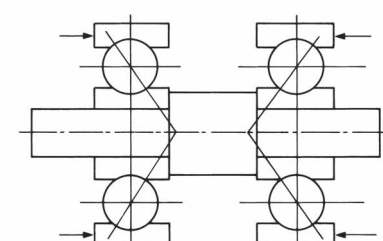
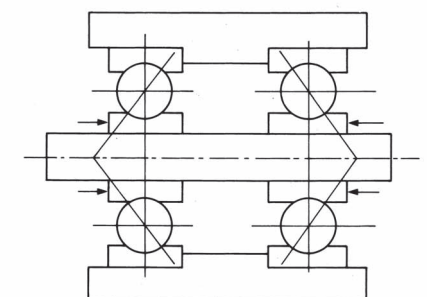

Figure 12-4 Duplex face to face (DF)
Figure 12-5 Duplex back to back (DB)
The preload can be applied in two directions: Duplex face to face (DF) (Figure 12-4) and duplex back to back (DB) (Figure 12-5).